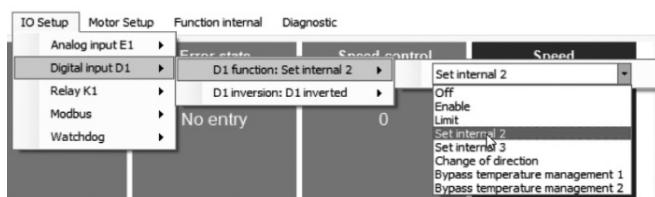

Fig. 18 – ZA – IO Setup ECblue 2nd Window – Set internal 2
9. The **ECblue 2nd** window will open, go to **IO Setup → Digital input D1 → D1 function** and select **Set internal 2** (see Fig. 18).